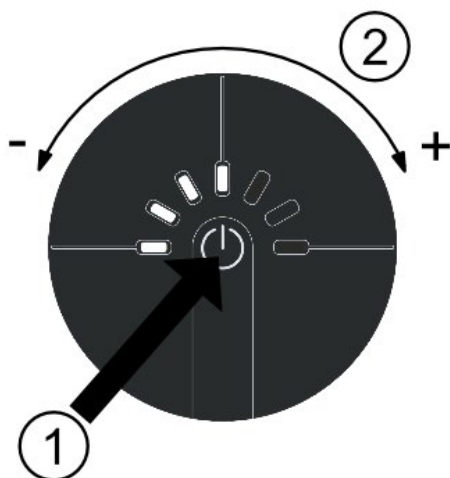

Fig. 9 Control operating elements
1. Press on the control unit (Fig. 9 / Pos. 1) to switch the heater on.
3. Turning the control unit (Fig. 9 / Pos. 2) changes the intensity of the infrared heater. The set intensity is indicated by the illuminated LEDs.
1. Before the heater has been switched on, press on the control unit (Fig. 9 / Pos. 1) for approx. 5 seconds.
3. The operating time can be set in a range from 5 to 35 minutes by turning (Fig. 9 / Pos. 2) the control unit. One LED (one increment) corresponds to 5 minutes.
4. The set time is confirmed by pressing the control unit (Fig. 9 / Pos. 1) again.